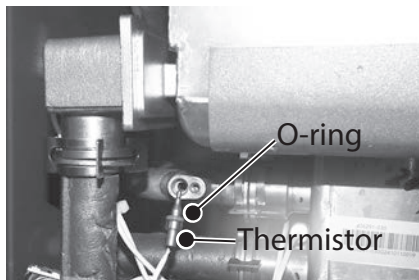

Figure 77 - Thermistor O-ring location
- 25** Locate the new thermistor, O-ring and metal clip provided in the kit. Install O-ring on the thermistor. See Figure 77.